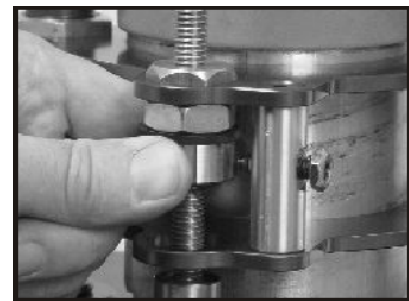

Figure 8
3. Then route the brass tensioning collar (Fig. 8) with vertical grooves, so it tightens against the rubber washer. Note: A drop of oil on the rubber washer eases the rotation of the brass collar.